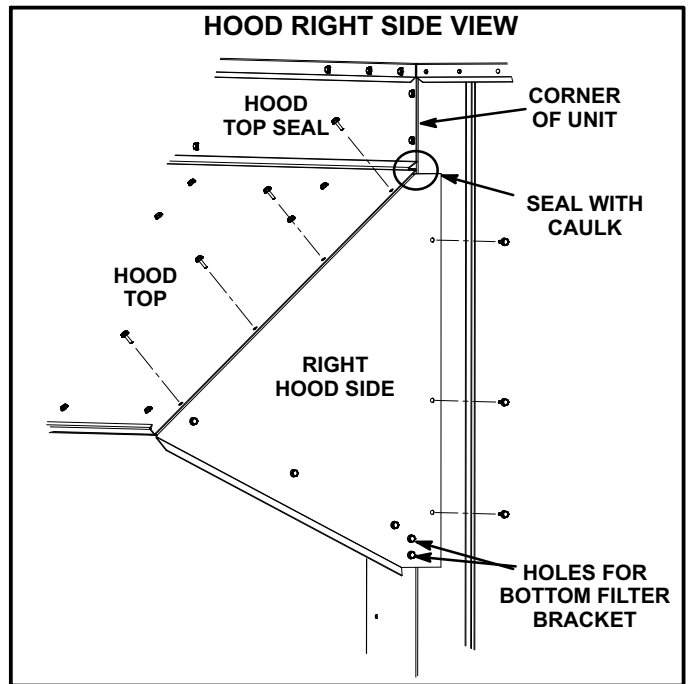

FIGURE 7
- 13- Secure the right hood side to the hood top. See figure 7. Do NOT secure the right hood side to unit.
- 16- Secure the right hood side to the unit as shown in figure 7.